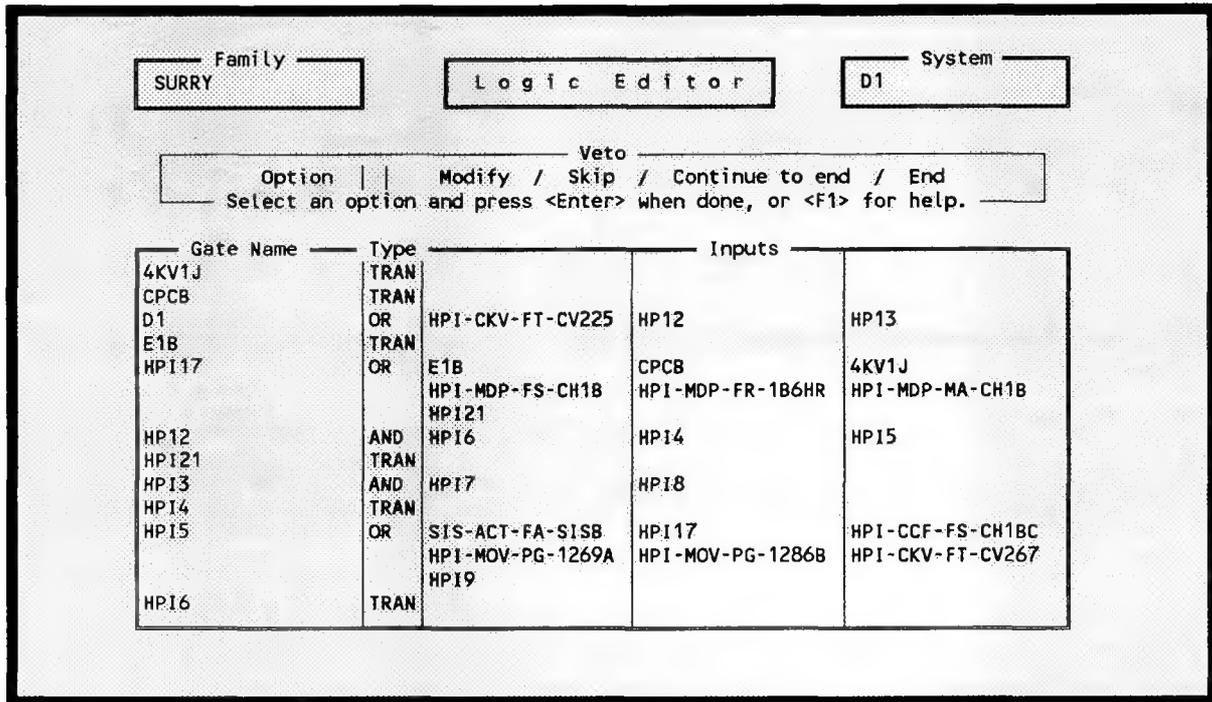

Figure 118. Delete a gate or event from a system or subsystem.
5.6.2.4 Delete. This option allows you to delete any of the data displayed on the screen. To invoke this option, highlight the text you wish to delete using the arrow or tab keys and type a <D>. When you invoke this option, Figure 118 will be displayed. The following options are available: